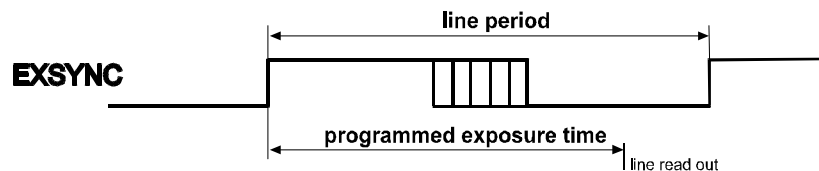

Figure 3-5: Exposure Time in Programmable Mode
- In the programmable mode the rising edge of ExSync triggers exposure for a time period programmed via the serial interface. The line is read out and transferred subsequent to the programmed time period. The falling edge of ExSync is irrelevant. See Figure 3-5.